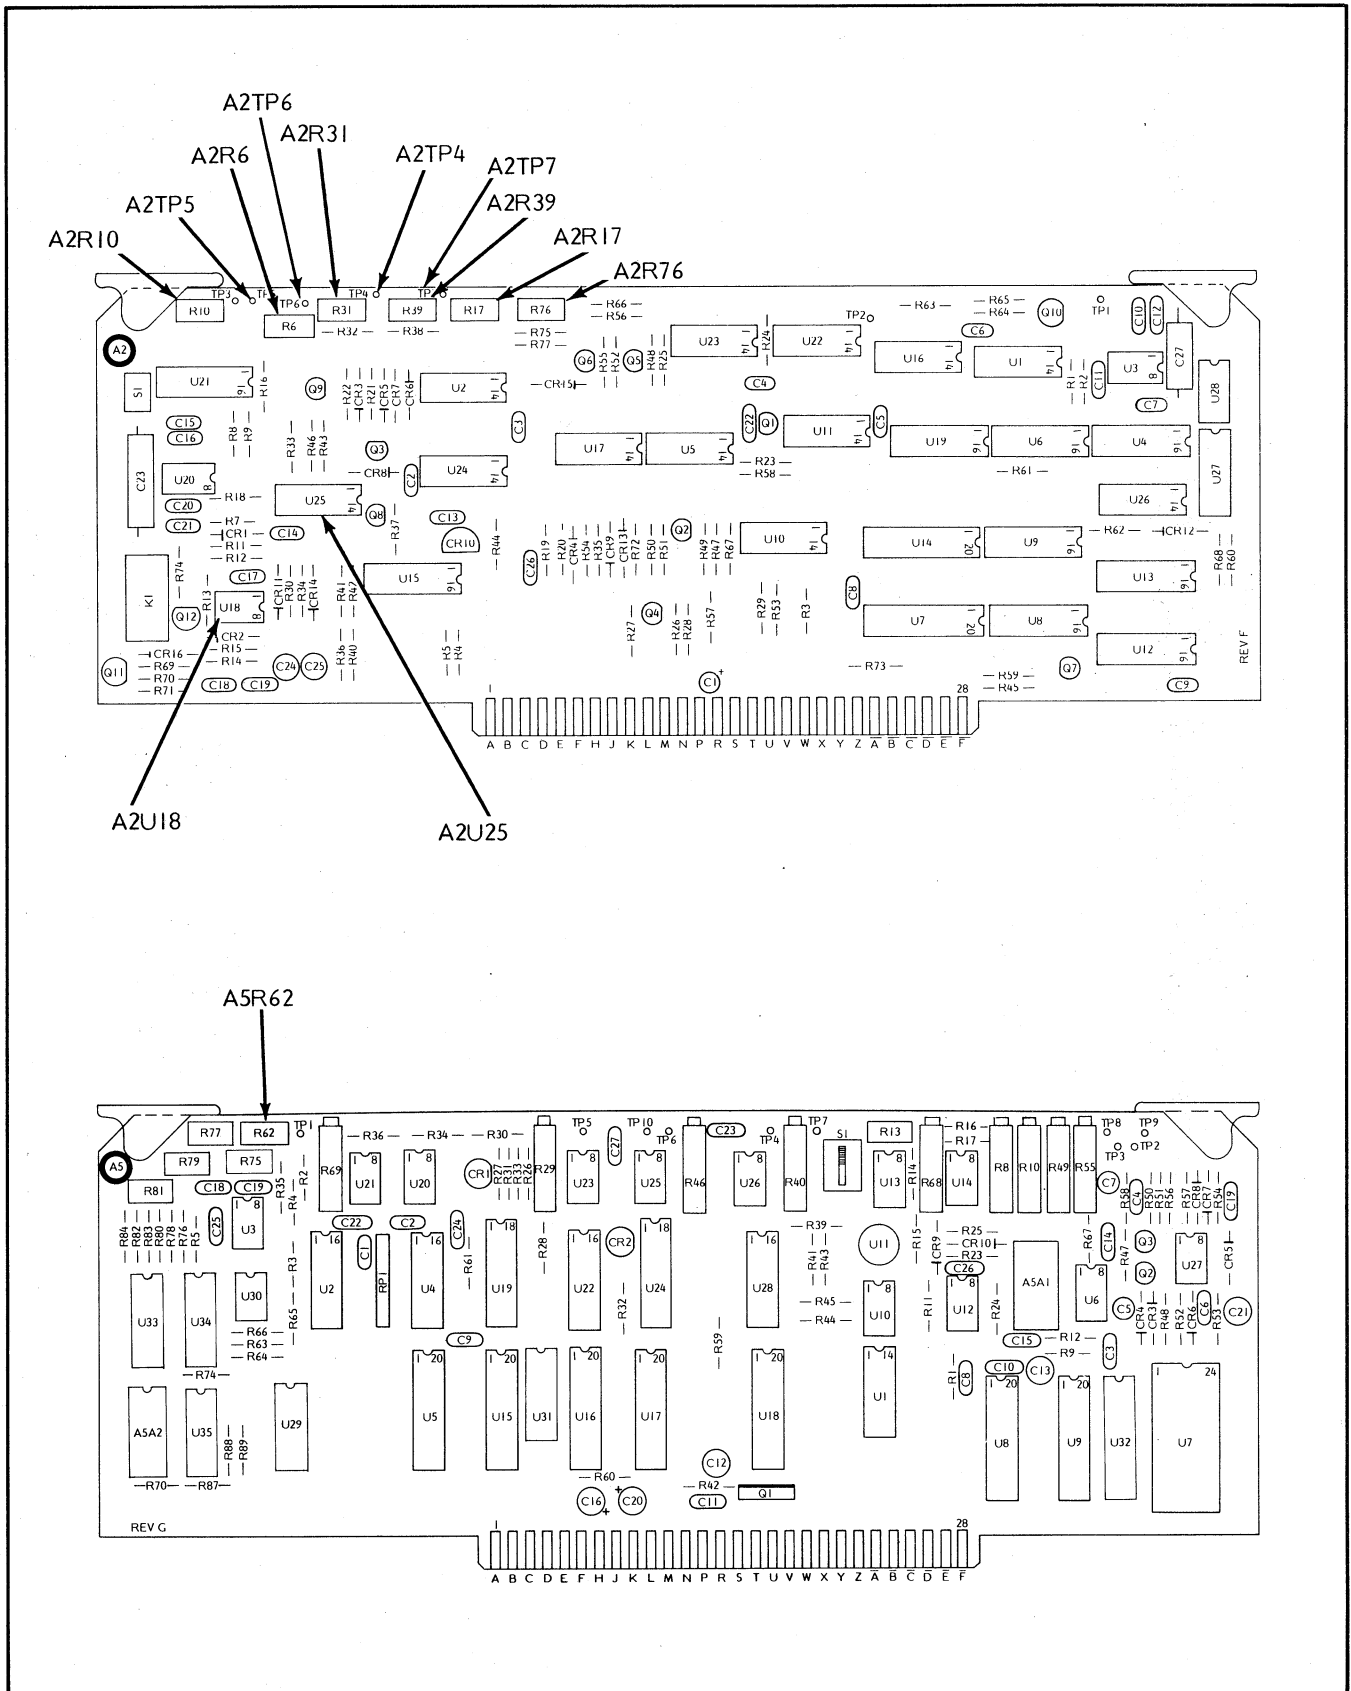

Figure 5-6. A2 Ramp Generator Adjustments
3. With the digital multimeter (DMM) referenced to A2TP5 (Figure 5-6), monitor A2U18
11. Adjust A5R62 (Figure 5-6) for $0V \pm 1$ mV.